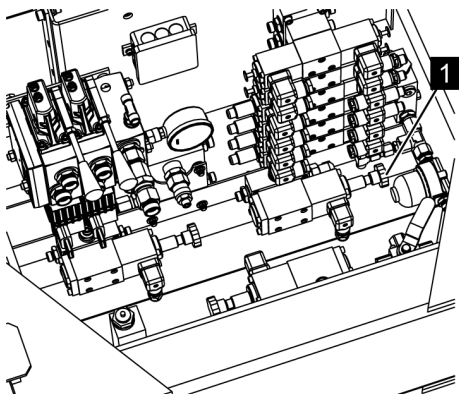

Fig. 107: Valves
8. ▶ For emergency operation, unlock the shuttle valve (Fig. 107/1).
- Make sure that the shuttle valve (Fig. 107/1) is completely unlocked for normal operation.